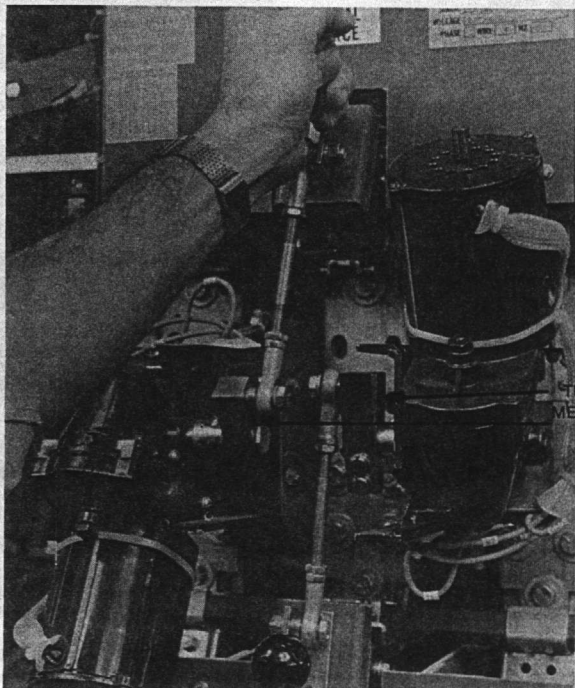

FIGURE 1
- 2a. MANUAL OPERATOR KNOB (100A THROUGH 1600A SWITCHES) - (See Figures 1 & 2)